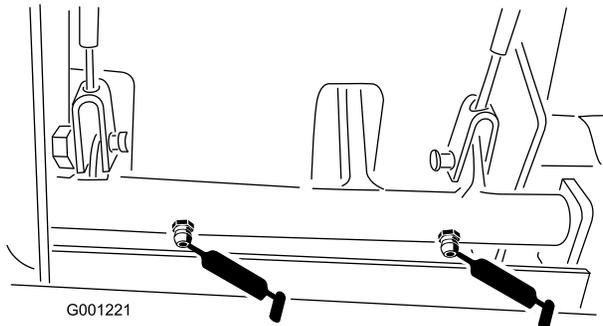

Figure 39
- Brake pivot bushings (Figure 39)
- Brake cables (drive wheel and brake pedal ends) (Figure 39)